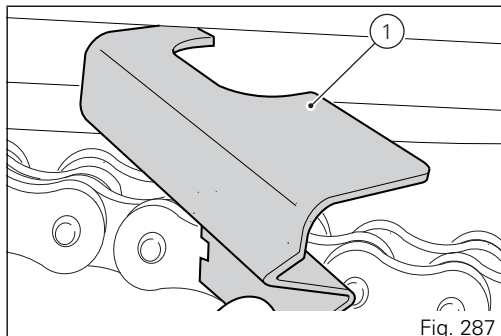

Fig. 287
Chain tension gauge (1) must be inserted between swinging arm and lower chain sliding shoe, at the chain sliding shoe central fastening point (Fig. 287).